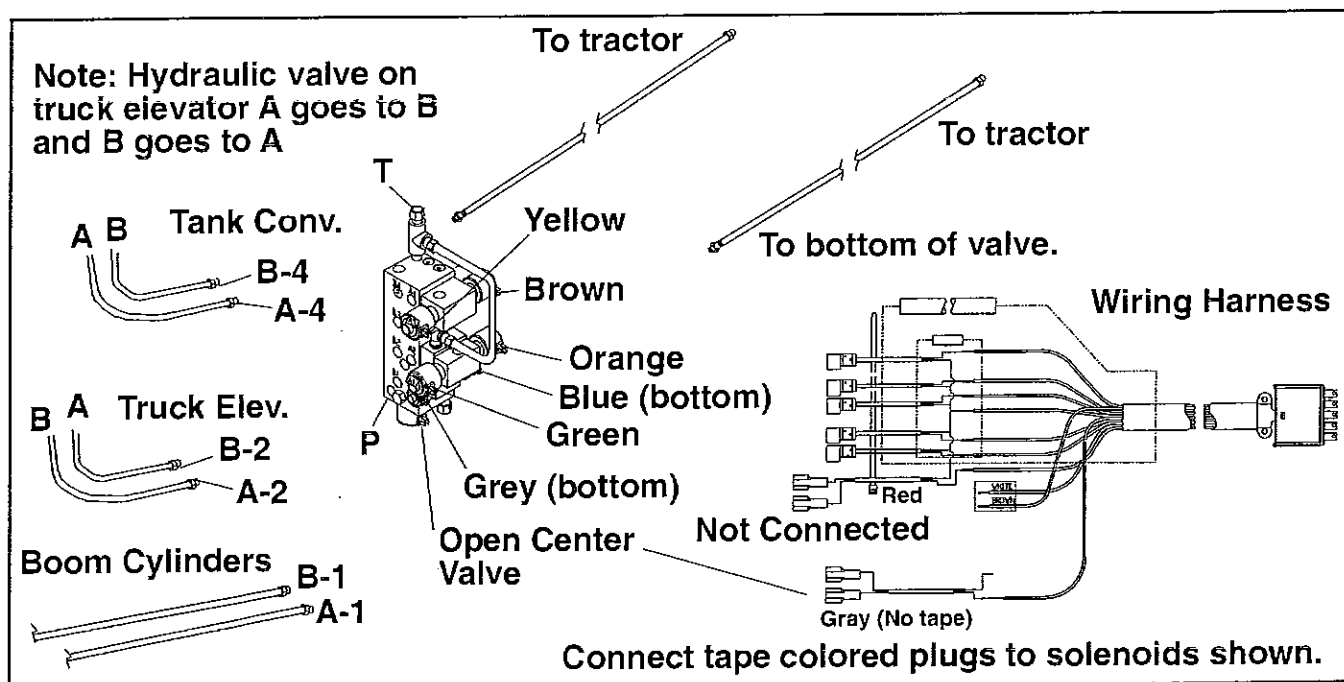

Figure 3.21: Hydraulic Valve and Wiring.
1. Connect the wiring harness to the control box by matching the color of the wires to the colors called for on the control box decal. See Figure 3.21 and 3.22, connect the other end of the harness to the appropriate solenoid valves on the valve assembly.